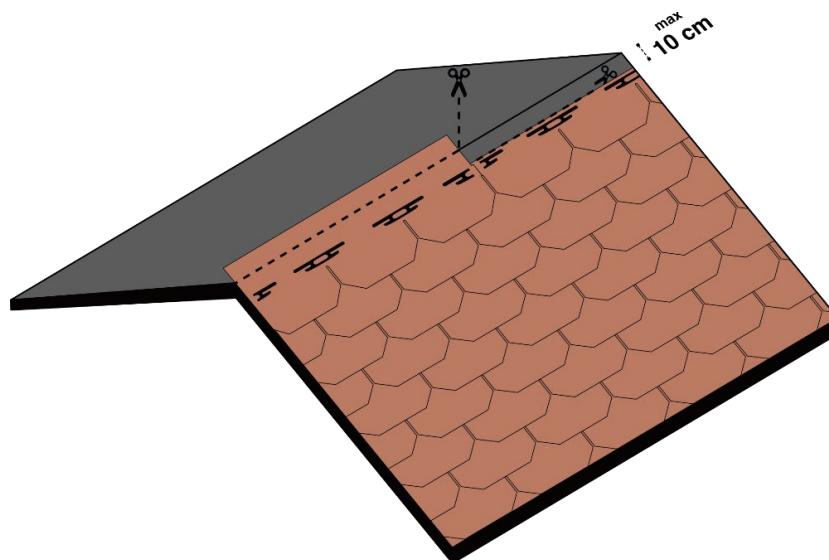

Fig. 18 - Shingles installation until the ridge
- Repeat the same steps for installation of the bituminous shingles in rows, until the entire pitch is covered, leaving the last 10 cm of bituminous membrane at the ridge exposed. If necessary, cut the top of the last row of shingles - Fig. 18